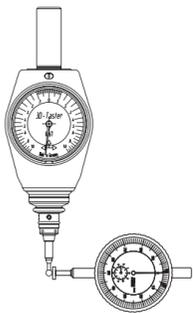

Fig. 2
---Set the indicator to zero (Fig. 2)